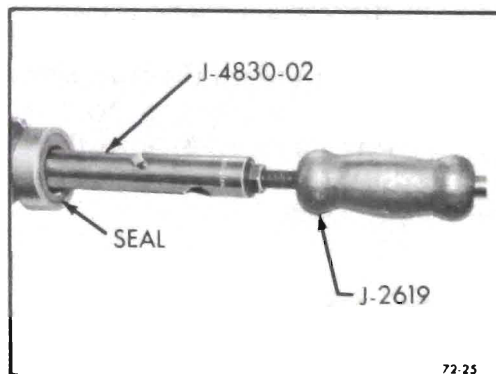

Figure 72-414 - Removing Case Extension Oil Seal
1. Using J-2619 slide hammer and J-4830-02 puller, remove case extension oil seal. See Figure 72-414.